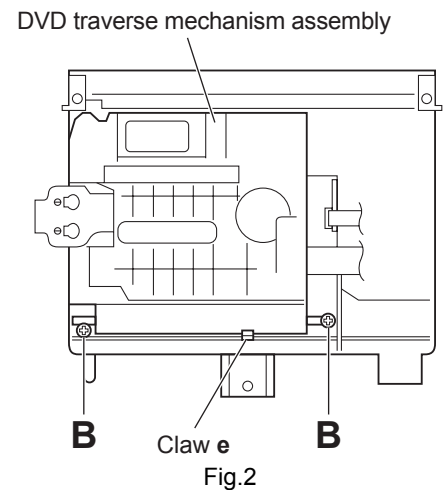

Fig.2
2.2.2 Removing the DVD traverse mechanism assembly (See Figure 2)